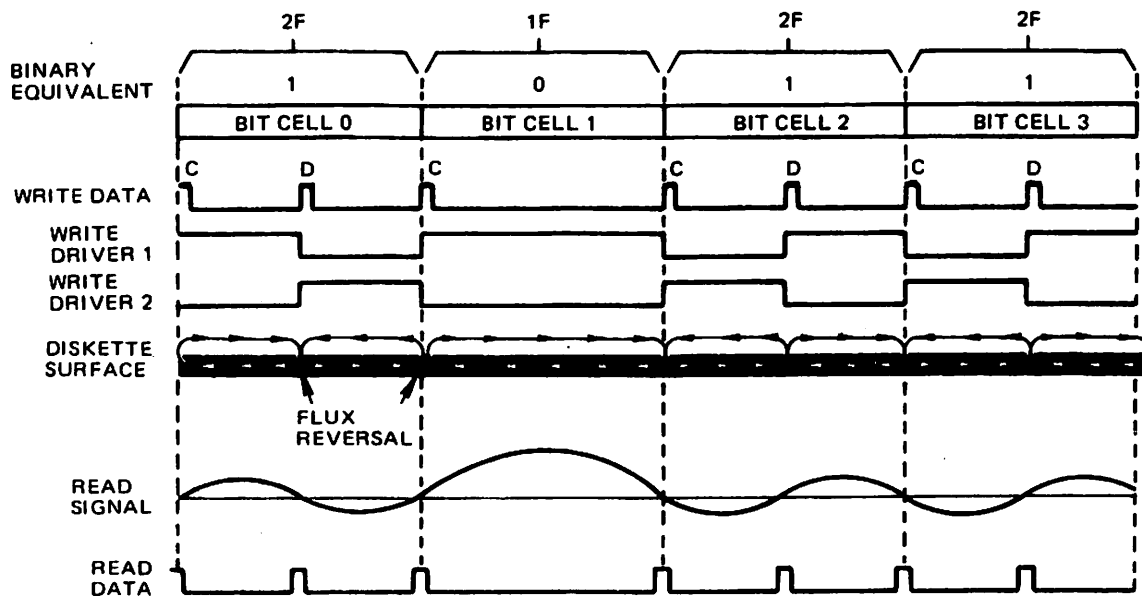

Figure 2.4.5 1F and 2F Recording Flux and Pulse Relationship
2.4.5 Figure 2.4.5 shows the 1F and 2F recording flux transitions with pulse relationship.